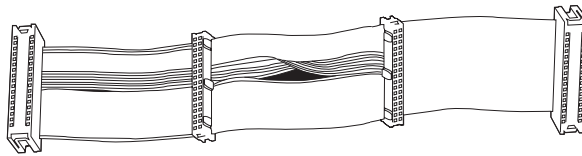

Fig. 2
1. To configure as drive A, connect your floppy drive to connector (A).
2. To configure as drive B, connect your floppy drive to connector (B). See Fig. 2.